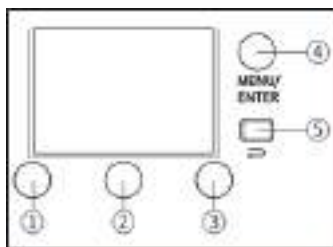

Figure 8: Control Panel Diagram
- Users can return to the main menu by pressing the "Return" button (Figure 8, No. ⑤).
- Use the "Parameter Adjustment" knobs (Figure 8, Nos. ①/②/③) to select the desired option for parameter adjustment.
- Press the "MENU/ENTER" button (Figure 8, No. ④) to choose the operating mode and enter the desired option.
In this mode, users can adjust parameters such as "Color Temp," "G/M," and "Intensity" using the parameter adjustment knobs shown in Figure 8 (Nos. ①/②/③).
In this mode, users can adjust parameters such as "Hue," "Saturation," and "Brightness" using the parameter adjustment knobs shown in Figure 8 (Nos. ①/②/③).
In this mode, users can adjust parameters such as "Red," "Green," and "Blue" using the parameter adjustment knobs shown in Figure 8 (Nos. ①/②/③).
In this mode, users can adjust parameters such as "X\_axis," "Y\_axis," and "Intensity" using the parameter adjustment knobs shown in Figure 8 (Nos. ①/②/③).
2) Parameter Adjustment Knobs (Figure 8 Nos. ①/②/③): Used to set specific parameters.
In this mode, the light has 12 pre-set scenes, including "COPCAR" "CANDLE""FIREWORK""TELEVISION", "LIGHTNING""PA-PARAZZI""PARTY", "BROKEN LIGHTS""EXPLODE""NEON LIGHT", "FIRE" and "COLORCYCLE".Users can select a scene by rotating the "MENU/ENTER" knob (Figure 8, No. ④) and adjust parameters such as "Frequency" and "Intensity" using the parameter adjustment knobs shown in Figure 8 (Nos. ①/②/③).
To enable this mode, users must first turn on the "DMX On/Off" switch in the [System] menu. Then, using the parameter adjustment knobs shown in Figure 8 (Nos. ①/②/③), users can set parameters such as "DMX Address" and "DMX Operating Mode."